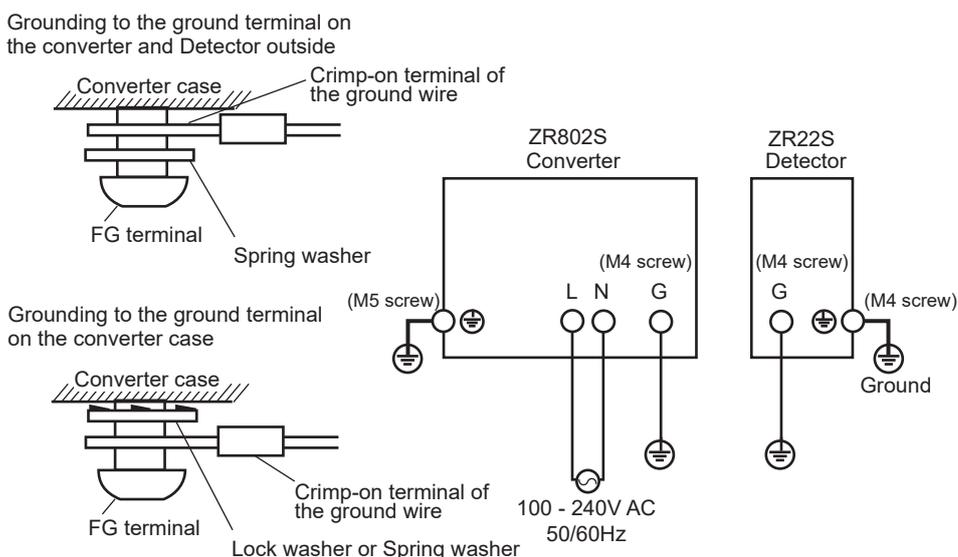

Figure 4.8
- (1) Keep ground resistance to 100 Ω or less (equivalent JIS D style (Class 3)).
- (2) When the ambient temperature of the wiring installation is 75 to 150°C for the wiring of the detector, use wiring material with sufficient heat resistance.
- (3) When connecting the ground wiring to the ground terminal of the converter case, be sure that the lock washer is in contact with the case surface (see Figure 4.8.).
- (4) Ensure that the jumper plate is connected between the G terminal and the protective ground terminal of the converter.
- (5) No intermediate parts are used for the internal ground terminal of the detector. Use crimping terminal for connection to the internal ground terminal in order to avoid corrosion by high contact potentials.
- (6) In order to prevent the earthing conductor from loosening, the conductor must be secured to the terminal, tightening the screw with torque of approx. 1.2 N•m (for M4) or 2.0 N•m (for M5).
- (7) Care must be taken not to twist the conductor.